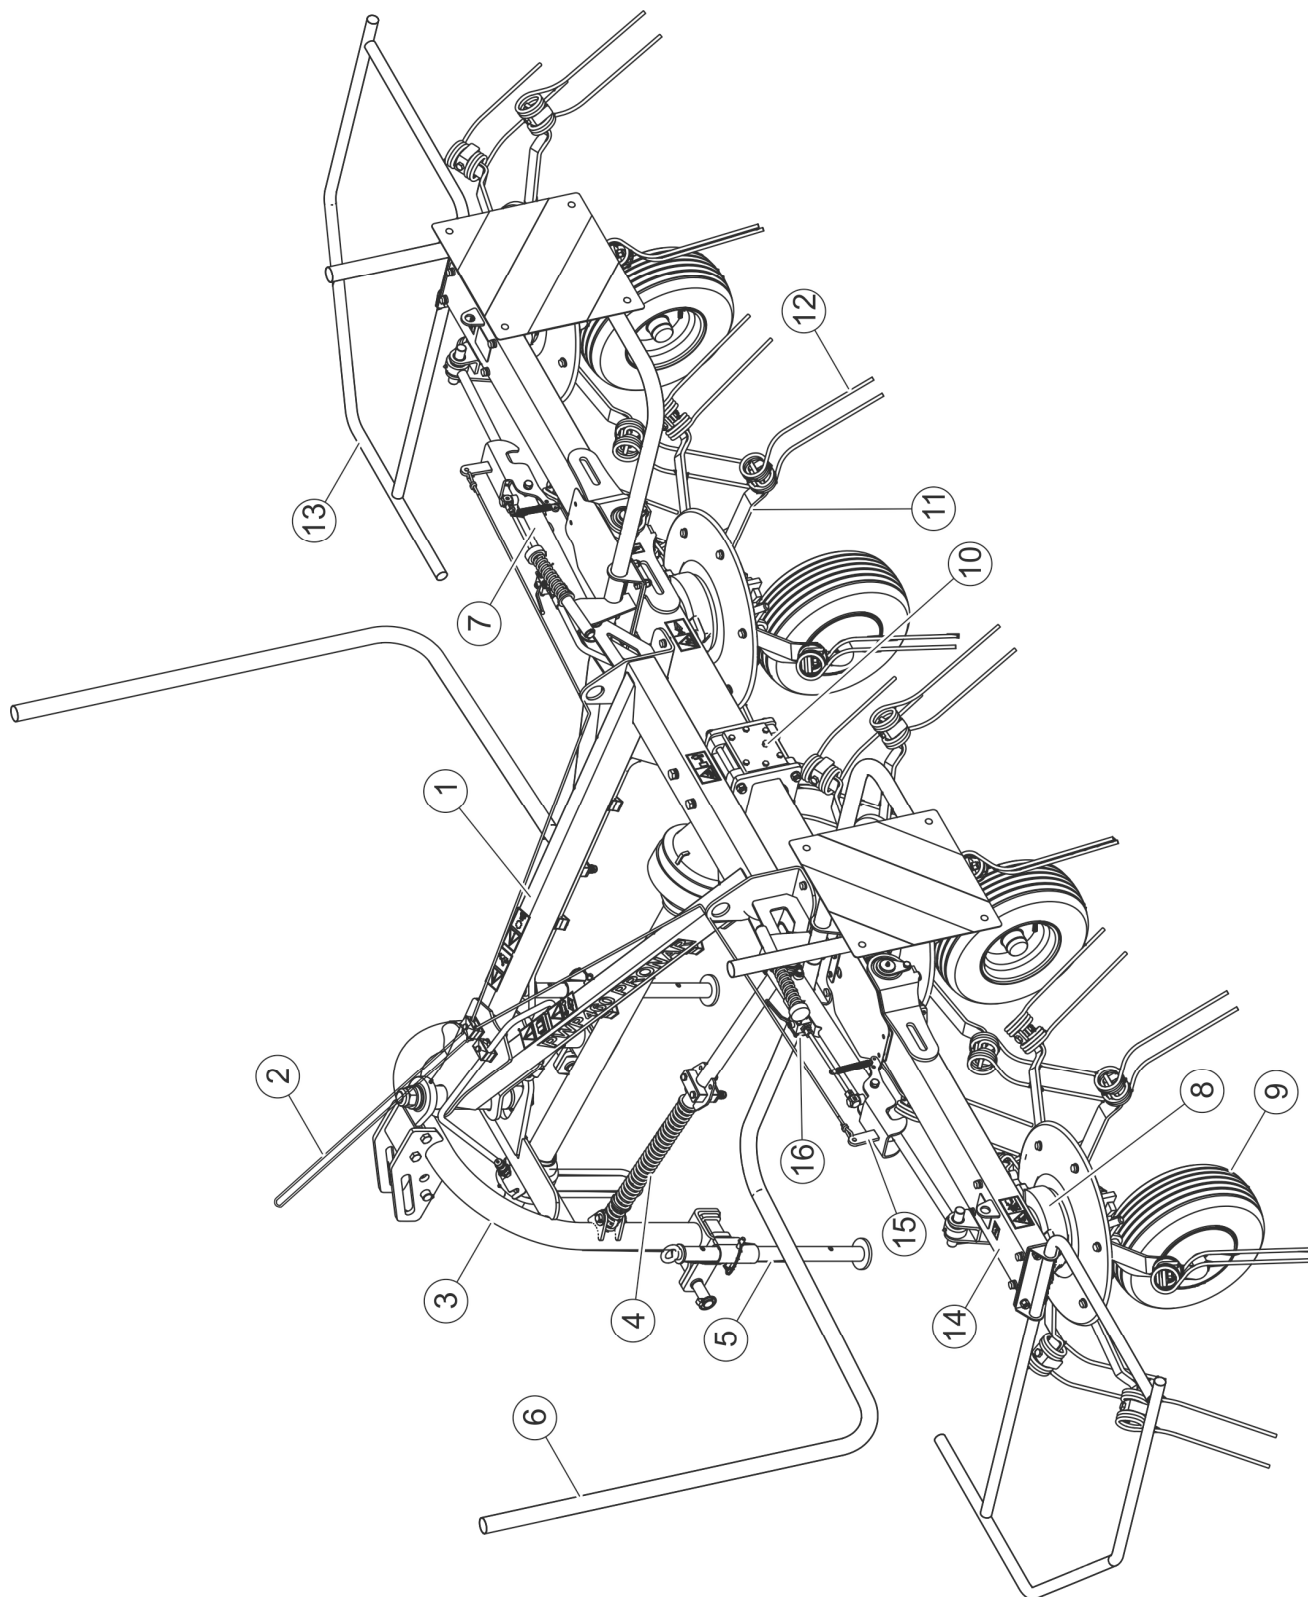

FIGURE 3.1 General construction
(1) support frame, (2) release line, (3) suspension system, (4) vibration dampers, (5) support, (6) vertical protective frame, (7) tilt hydraulic cylinder, (8) rotor gear, (9) road wheel, (10) main gear, (11) rotor working arm, (12) spring fingers, (13) horizontal protective frame, (14) tilting modules of the support frame, (15) mechanical lock, (16) hydraulic valve locking the tilt cylinder.
The construction of the rotary tedder is shown in FIGURE 3.1. The main component of the whole machine is the supporting frame (1) connected via the machine's linkage (3) to the three-point linkage (3-point linkage) of the tractor category I or II. The support frame is amortized by two vibration shock absorbers (4) located between the frame and the tractor's three-point linkage system. In the central part of the support frame there is the main gear (10) of working units, which drives the rotor gears (8) through drive shafts placed in the frame.